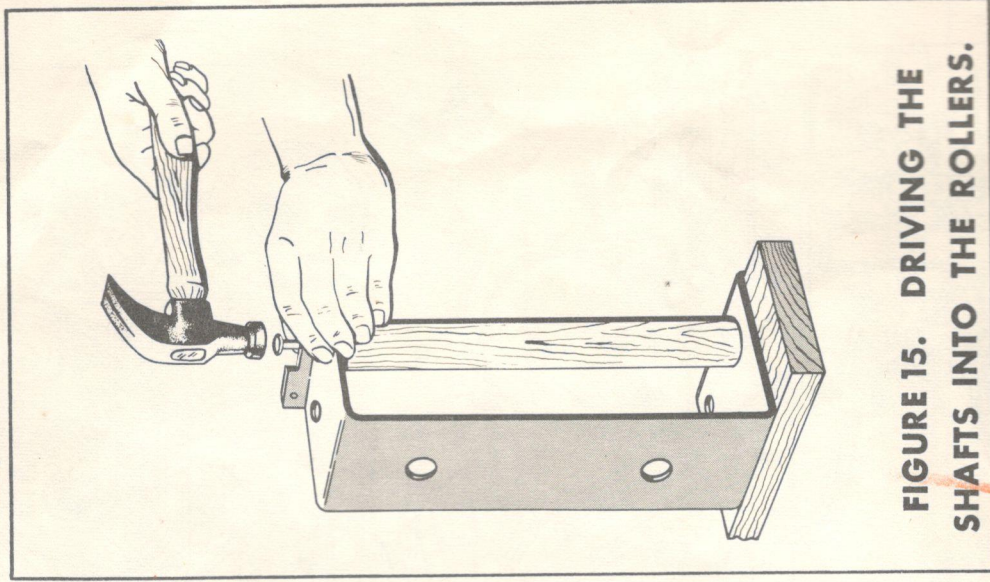

FIGURE 15. DRIVING THE SHAFTS INTO THE ROLLERS.
- () The small gear is already mounted on its shaft. Drive this shaft through the left end of the bracket and into the end of the roller marked with red. See Figure 15. The shoulder on the shaft should be tight against the end of the wood roller.
roller until the shoulder on the shaft is tight against the face of the wood roller. See Figure 15.